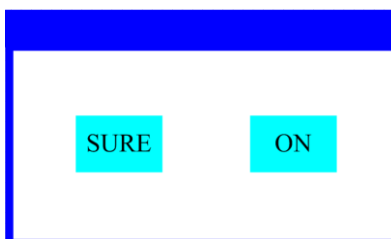

Figure 5 Dialog of confirm
- When the parameter is a key item, chick corresponding item, a dialog shown in Figure 5 will be popup ask for the confirm. Chick ‘sure’ to confirm.